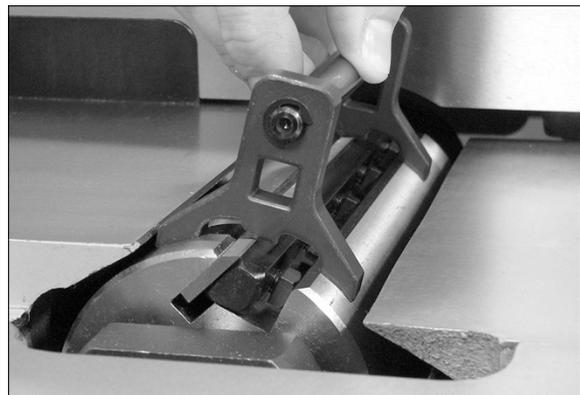

Figure 18
6. Rotate the cutterhead (using the belt or pulley) until the tip of the knife is at the top of the cutterhead arc. Place the knife setting gauge (Figure 18) over the cutterhead so the tip of the knife contacts the center of the gauge, and all four "feet" of the gauge rest firmly upon the cutterhead, as the knife is pushed down into its slot. The gauge will position the knives at approximately .015" above the cutterhead. Knife height should not vary more than .002-.003" across the length of the cutterhead.